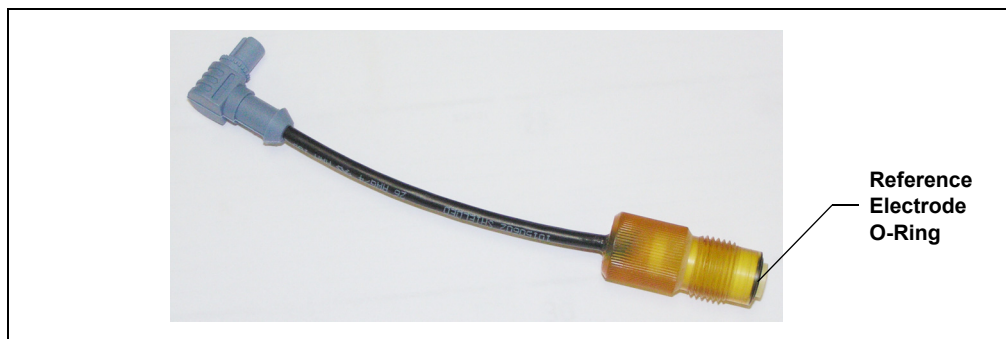

Figure 9-39. Reference Electrode O-Ring
- Verify that the reference electrode O-ring is present (see Figure 9-39) and then screw the reference electrode into the reference electrode cavity.